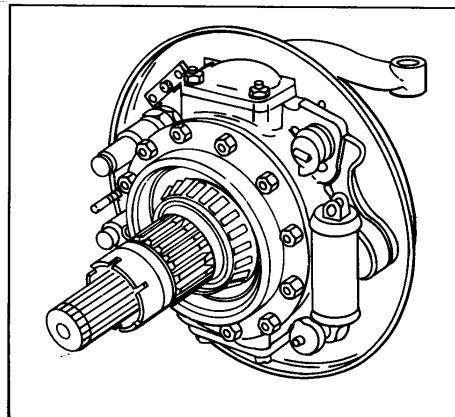

Figure 14.
2. Remove anchor pin plate cotter key, stud nut, and plate (refer to Fig. 14).